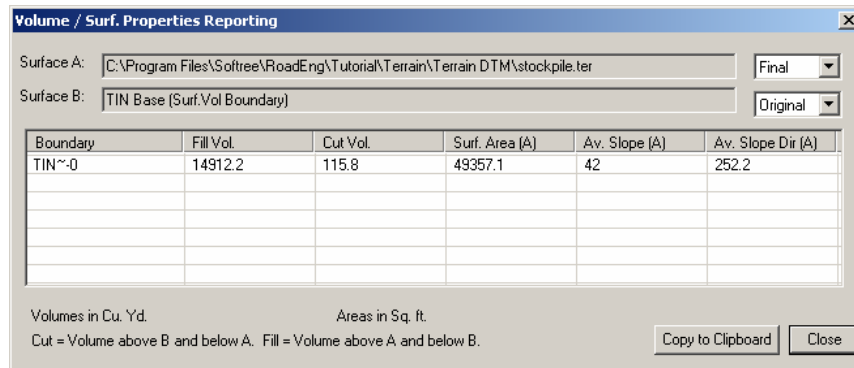

Figure 8.23: Volume / Surf. Properties Reporting dialog box.
- Once the calculation is complete, the Volume / Surf. Properties Reporting dialog will appear as shown in Figure 8.23. Press Close.